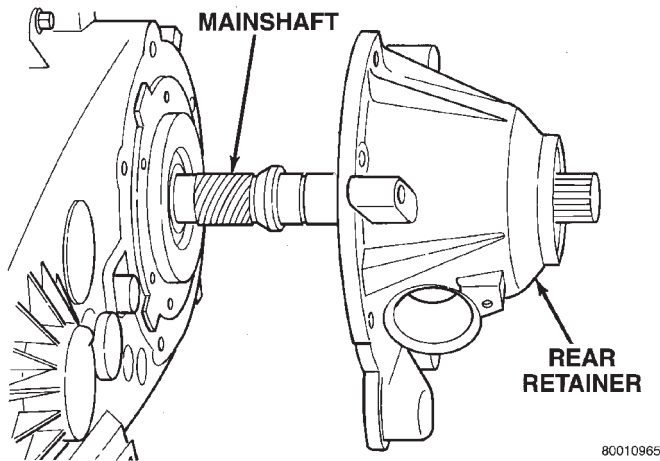
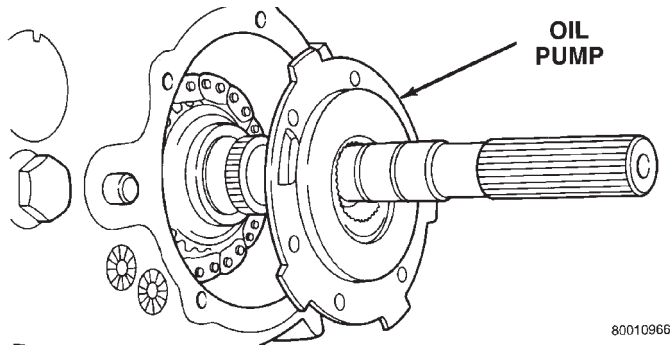

Fig. 12 Rear Retainer Removal
Fig. 13 Oil Pump Removal
(9) Tap rear retainer with rawhide or rubber mallet to loosen sealer bead.
(10) Remove rear retainer from rear case half (Fig. 12).
(11) Remove snap-ring holding oil pump in position on output shaft.
(12) Disengage oil pickup tube from oil pump and remove oil pump assembly. Remove oil pump by tilting the edge of the oil pump from under the edge of the rear case half and sliding the pump (Fig. 13).